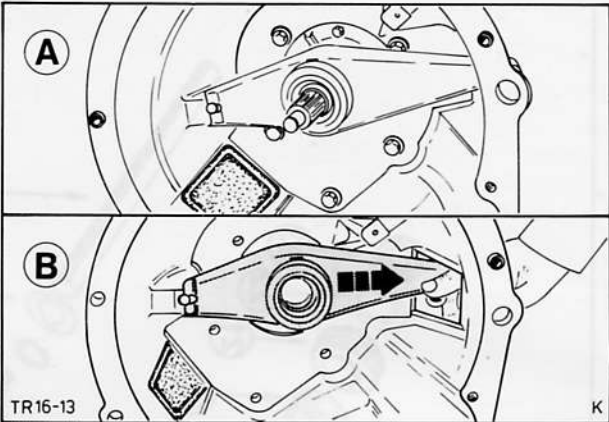

Fig. 66. Remove thrust bearing with release lever
2. Detach clutch housing and thrust bearing with release lever (5 bolts), Fig. 66. Separate clutch housing, thrust bearing and release lever.